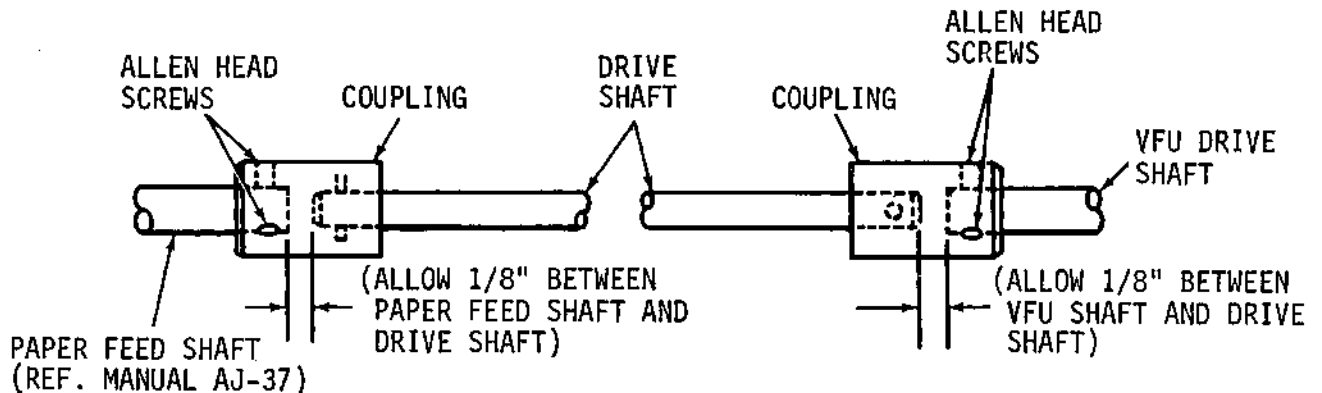
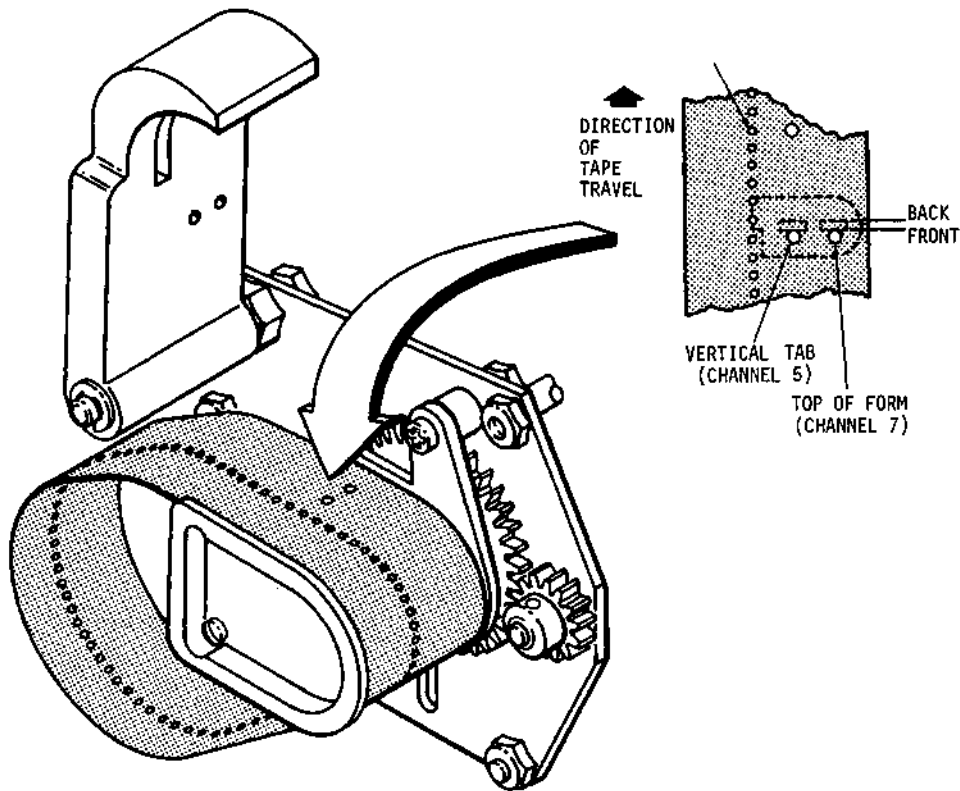

Figure 5-26. REMOVAL/REPLACEMENT OF DRIVE SHAFT 63060142-5001 AND COUPLINGS 63060144-2002 FOR VFU ASSEMBLY
Figure 5-27. PAPER TAPE READER ADJUSTMENT
1. Using a 1/16-in. (1.6 mm) allen wrench, loosen two 6-32 allen head screws (item 10 from kit) on right-hand coupling (item 11 from kit). Coupling is projecting to the left through right chassis frame, AI-1 on form feed shaft (BJ-37). (Refer to Fig. 5-26)
2. Using a 1/16-in. (1.6 mm) allen wrench, loosen two allen head screws (item 10 from kit) on left-hand coupling (item 11 from kit) located on shaft (Fig. 5-26 of VFU unit).
3. Remove the left and right couplings after removing connecting drive shaft (item 9 of kit).
7. To replace or install VFU unit, reverse steps D.1. through D.5. and use Fig. 5-26 for reference.
A. PAPER TAPE READER ADJUSTMENT/MAINTENANCE (SEE FIG. 5-27)
2. Loosen two set-screws on right-hand coupler on form feed shaft (Fig. 5-26).
3. Manually rotate drive shaft (Fig. 5-26) in a clockwise direction and observe the Top of Form (TOF) (channel 7) and the Vertical Tab (VT) hole (channel 5) as they move toward the rectangular slit holes on the lower tape reader (Fig. 5-27).
4. At the point where the leading edges of both the VT and TOF holes align with the front edges of the slits or light holes on the top of the lower tape reader, stop turning the shaft. (Fig. 5-27)